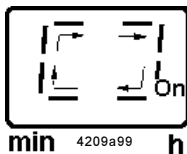

Fig. 21 - Green display (operating time)
- Pump "running" is indicated on the display by a **rotating light movement of the green display** (operating time)(fig. 21).